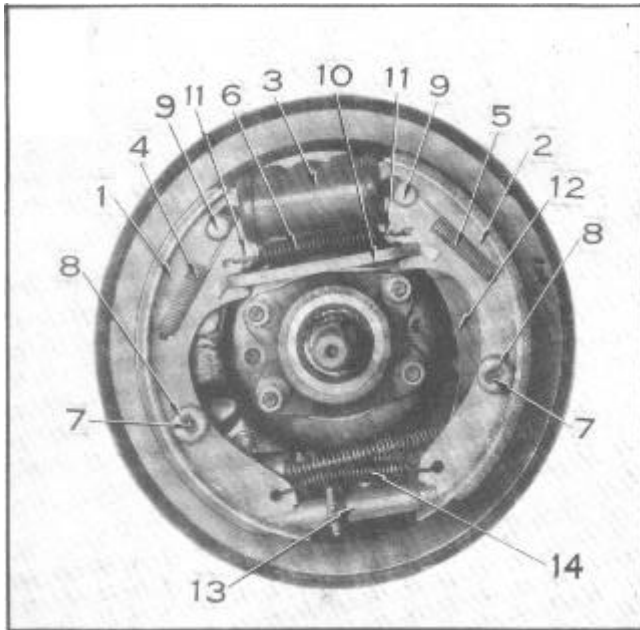

Figure 12--Floating Type Shoes - Model 40 Passenger and 40 Traveler
5. Replace anchor links (E) felt seal and spring washers. Adjust anchor link nuts so that the links are free to turn with all side play removed. Install cotter pins on nuts.
8. Push cable into conduit and after shoes have been reinstalled connect cable to shoe operating lever (12), Figure 12, leaving adjustable yoke end of cable disconnected.
2. Remove brake shoe to anchor pin primary spring (4) Figure 12, secondary spring (5) and brake shoe springs (primary and secondary) (6).
3. Remove brake shoe cable lever strut (10).
4. Remove brake shoe hold down spring cups (8) springs and spring pin (7).
5. Remove brake adjusting screw spring (14) and screw (13).
6. Remove shoes (1) and (2).
7. Remove anchor links (9) by taking off nuts and spring washers on backing plate.
8. Remove eccentrics (11) by taking off nuts on backing plate.